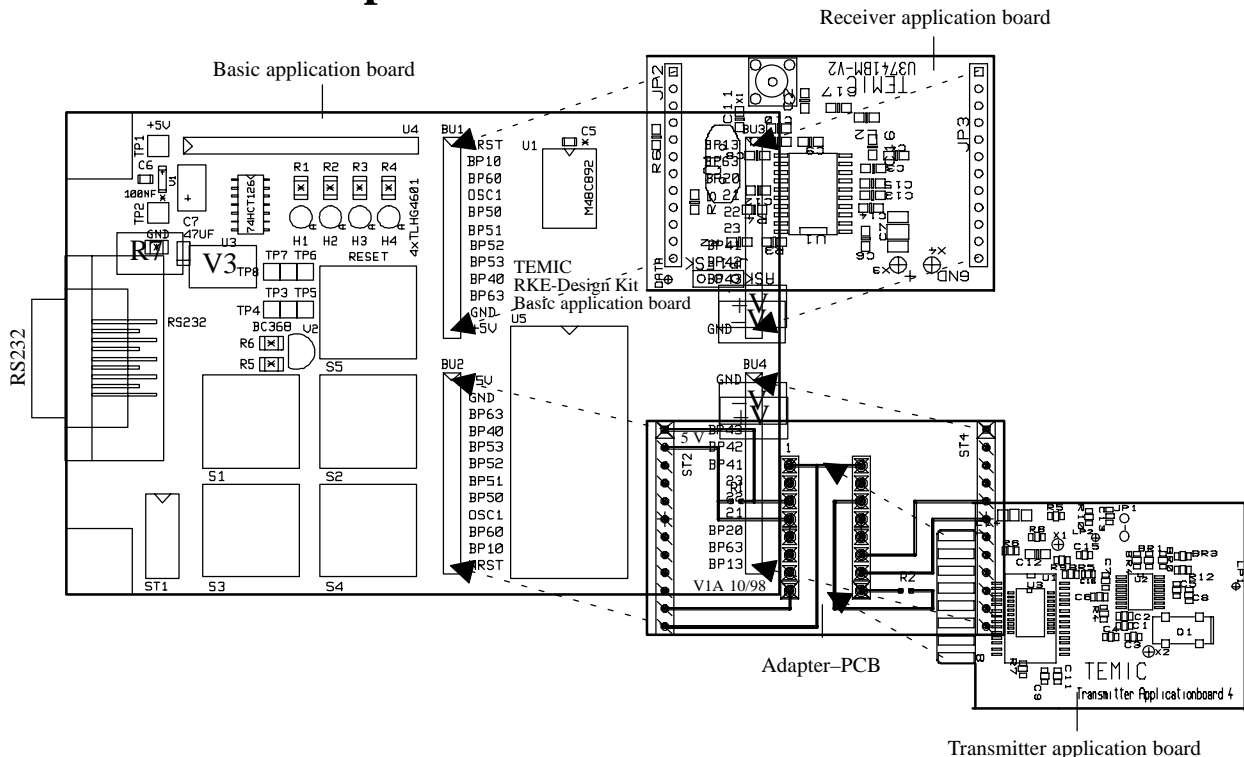

Figure 1. RKE Design Kit
To configure the RF transmitter or receiver, the appropriate board must be connected to the basic application board (see figure 1). To prevent damaging, the application boards must be in the correct position! Via a serial port (RS232) the basic application board must be connected to the PC. The configuration will be done by the transmitter- resp. receiver application software.
3. Assemble the RKE Design Kit as shown in figure 1.